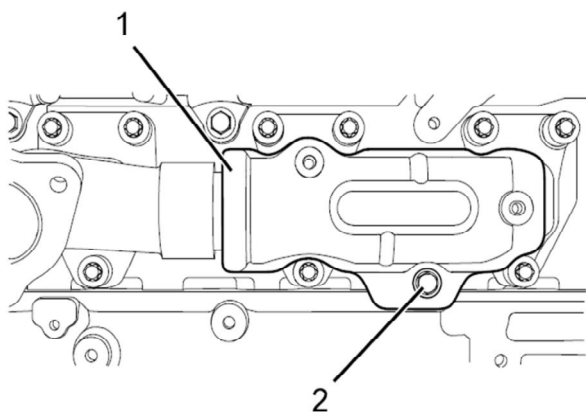

Figure 24: Exhaust Manifold Heat Shield
25. Remove exhaust manifold heat shield (**Figure 24**, Item 1)